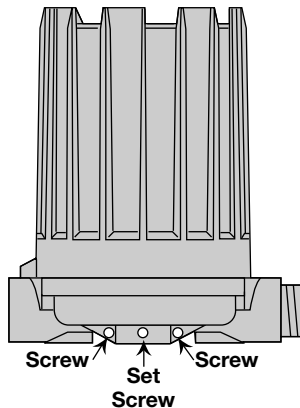

Figure 4
1. Loosen set screw(s) at base of switch housing. Refer to **Figure 4**.
14. Rotate switch housing to correct position and tighten set screw at base of switch housing. Refer to **Figure 4** on page 6.